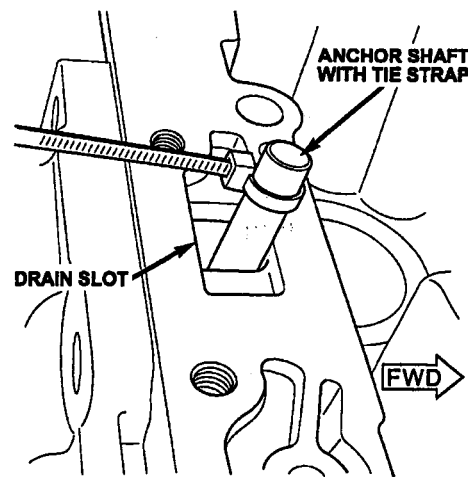
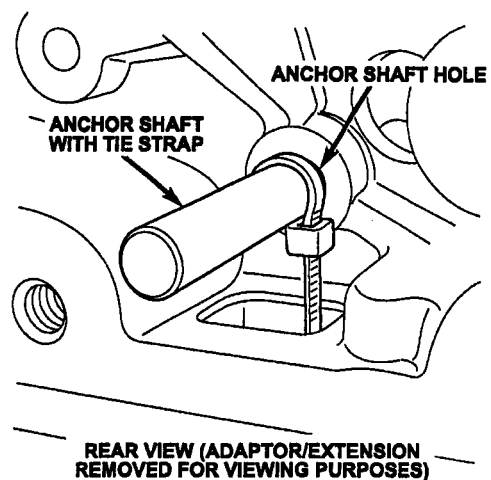

Figure 5
Figure 6
11. Insert the anchor shaft-tie strap assembly, long end first through the drain slot (Figure 5). Rotate the assembly so that the short end faces the anchor shaft hole as shown in Figure 6.